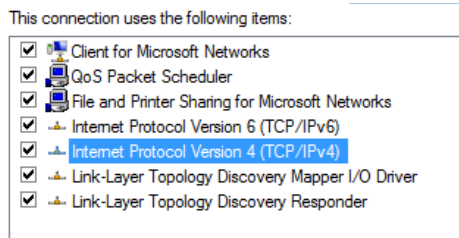

Figure 14 Local Area Connection Properties dialog box – Internet Protocol Version 4
- e In the list of items under **This connection uses the following items**, double-click **Internet Protocol Version 4 (TCP/IPv4)** (Figure 14).